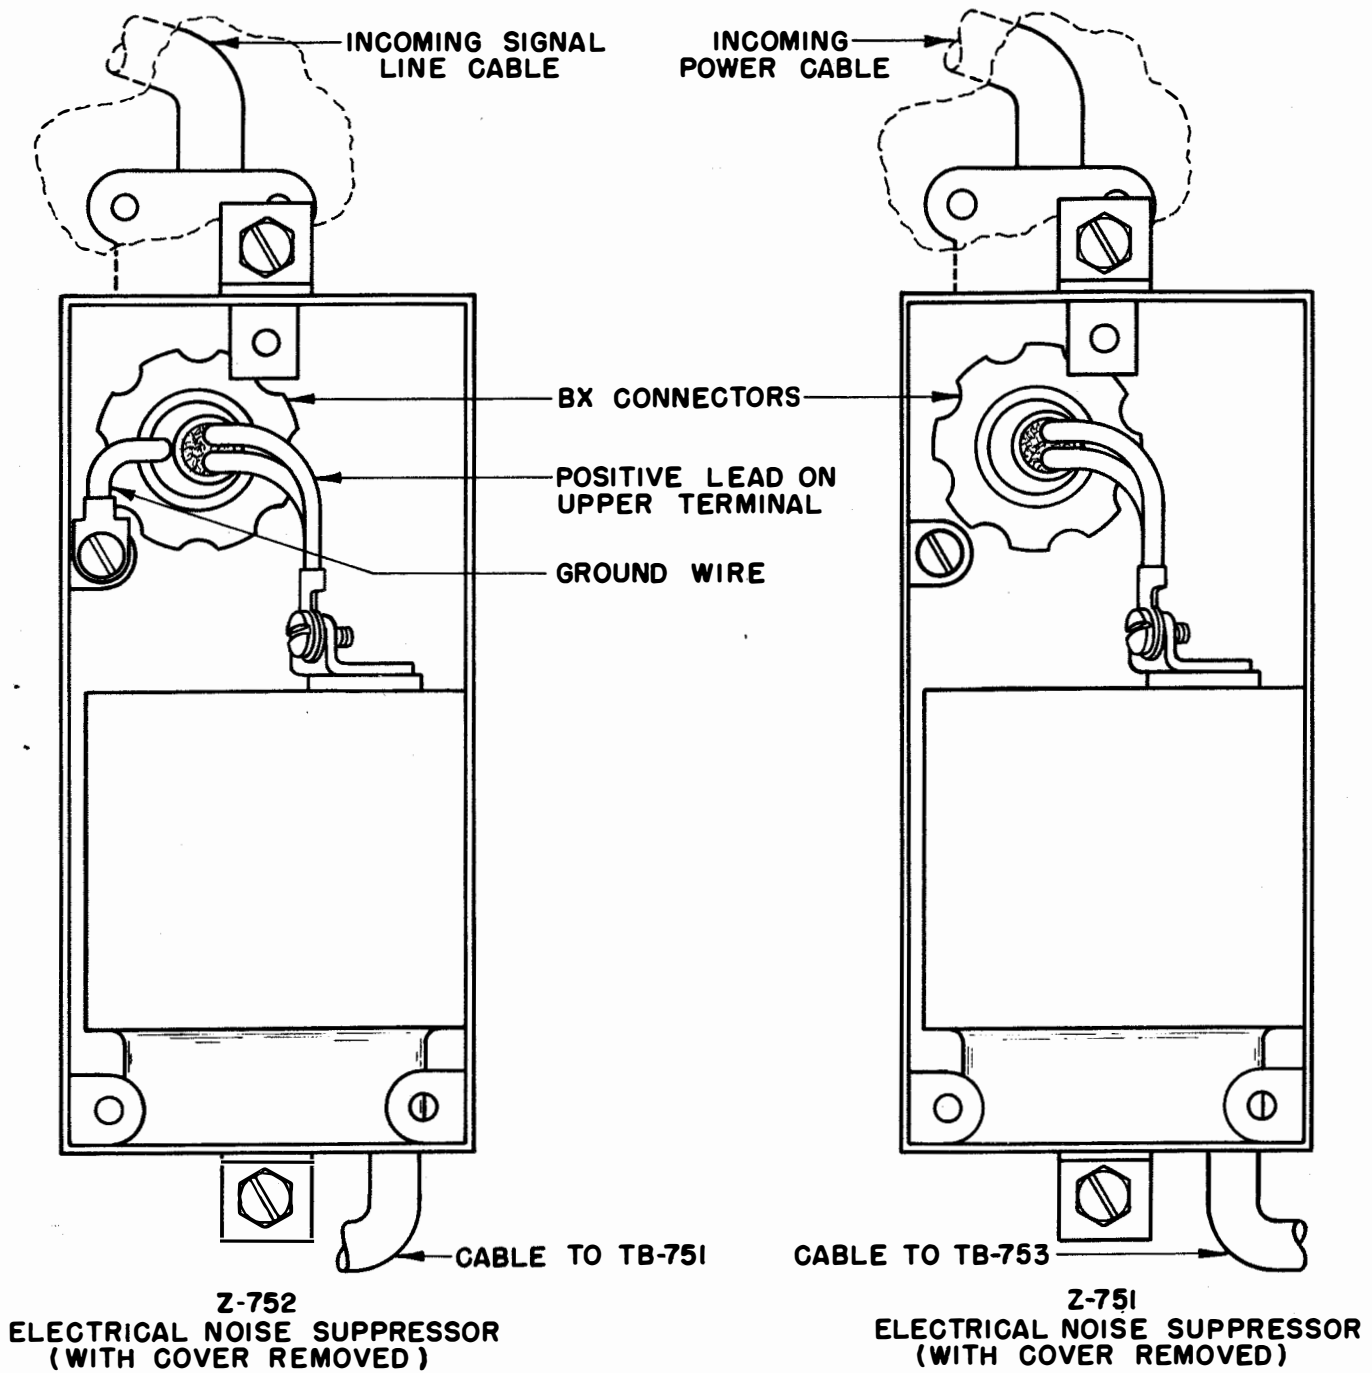

Figure 3-2. Power and Signal Line Connections
and up through the right BX connector in the center of the upper shelf. Connect the leads to the electrical noise suppressor as shown in figure 3-2. (For any specific installation refer to the applicable installation drawing.)
(2) Insert the signal line cable through the same opening in the lower shelf but through the left BX connector in the center of the upper shelf. If single loop operation is used (keyboard and automatic typer in series), connect the positive (+) lead to the upper terminal and the negative (-) lead to the lower terminal of the electrical noise suppressor as shown in figure 3-2. If double loop operation is used (keyboard and automatic typer separated) connect the SEND line as described above. Insert the RECEIVE line through the large opening in the left rear corner of the lower shelf and up through the 7/8-inch hole in the upper shelf. Remove the white wire from the upper half of terminal 5 on TB-751 and connect it to terminal 7. Remove the black wire from terminal 10 and connect it to terminal 8. Connect the positive (+) lead of the RECEIVE line to terminal 5 and the negative (-) lead to terminal 10 of TB-751 as shown in figure 3-3.
(3) To relieve tension on the terminal connections, clamp the cables in place by means of the BX connectors. If additional thickness is required, friction tape may be wound around the cables at the clamping point.
(4) Replace the panel across the front of the lower section.
b. CABINETS TT-69/UG AND TT-70/UG.—Insert the power and signal line cables into the right and left BX connectors respectively. The connections are the same as described in paragraphs 4.a.(1) and 4.a.(2).
c. When installing any of the above sets, a ground wire should be brought in and connected to the Cabinet ground screw located just above terminal board TB-753 as shown in figure 3-3. The ground wire should also be connected to the signal line electrical noise suppressor ground terminal as shown in figure 3-2.